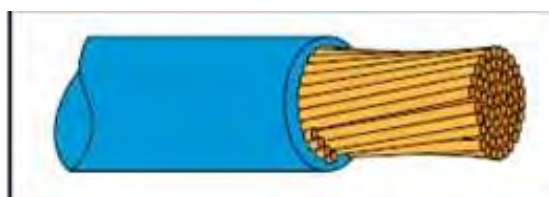

Figure 210
- a. Broken, nicked, or cut strands as listed below and shown in Figure 210.